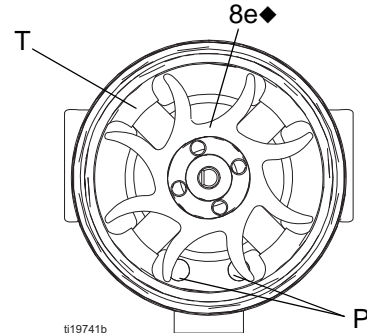

FIG. 38 . Fan Orientation
12. Hold the coil assembly (8a) on a workbench with the fan end facing up. Press the fan (8e.) onto the long end of the shaft (S). The fan blades must be oriented as shown in FIGURE 38.